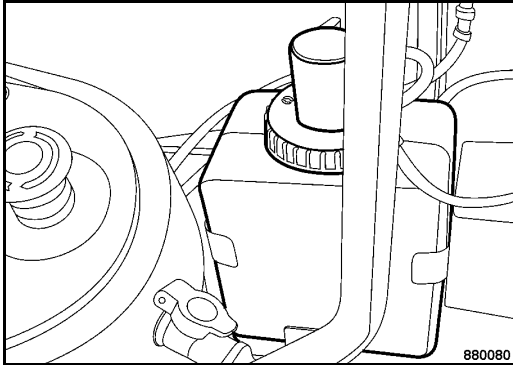

Fig. 188
- Check the fluid level in the tank (Fig. 188), top up if necessary.